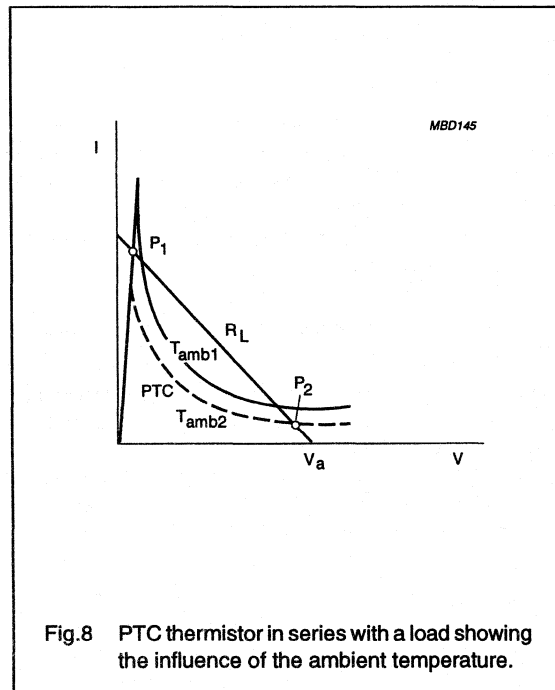

Fig.8 PTC thermistor in series with a load showing the influence of the ambient temperature.
2. The ambient temperature increases (see Fig.8)
Remark: When the temperature of the PTC thermistor is greater than T_s (i.e. the thermistor is in its tripped state), the thermistor will heat up causing the ambient temperature to increase (see Fig.8). This must be taken into account when calculating the value of the load resistance (i.e. the resistance of the PTC thermistor).